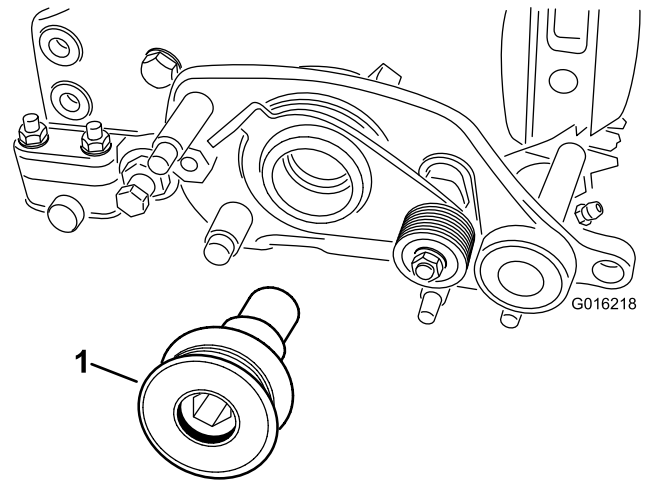

Figure 12
3. Torque the groomer drive pulley (Figure 12) to 170 N·m (125 ft-lb).
2. Secure the groomer drive pulley to the reel shaft (Figure 12).